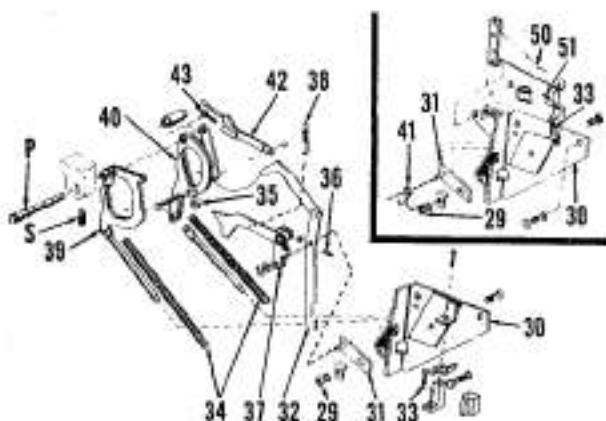
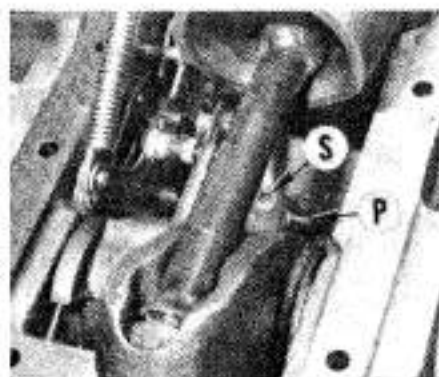
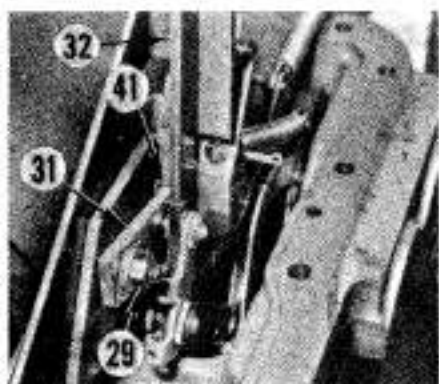

Fig. 211—Drawing of hydraulic lift linkage located on inside of lift cover. Inset shows parts that are used for pressure control models.
Fig. 216—Set screw (S) retains control cam pivot shaft (P).
Fig. 217—View of vertical lever spring (41) installed.
Remove fitting at left-hand side of lift cover and loosen set screw (S—Fig. 216) retaining cam pivot shaft (P). Withdraw the pivot shaft and remove position control and draft control cams (39 and 40—Fig. 211).
Install control linkage as follows: Locate control cams (39 and 40—Fig. 211) in cover and start pivot shaft (P) through left-hand side of cover, but not into cams. Install vertical lever spring (41—Fig. 217) over pivot bracket (31) and around vertical lever (32), then insert pivot shaft into control cams. Do not tighten set screw at this time. Insert spring rods (34—Fig. 211) into mounting bracket (30), then remove cotter pins to release the springs. Install assembled quadrant while holding control fingers away from quadrant rollers. Install quadrant retaining pin (P—Fig. 215). Hook spring (38) between position control cam and finger (37). Install pressure control lever (50—Fig. 214) if so equipped. Adjust cam pivot shaft (P—Fig. 216) to obtain minimum linkage side play, but make sure cams move freely. Tighten set screw (S) to secure pivot shaft.